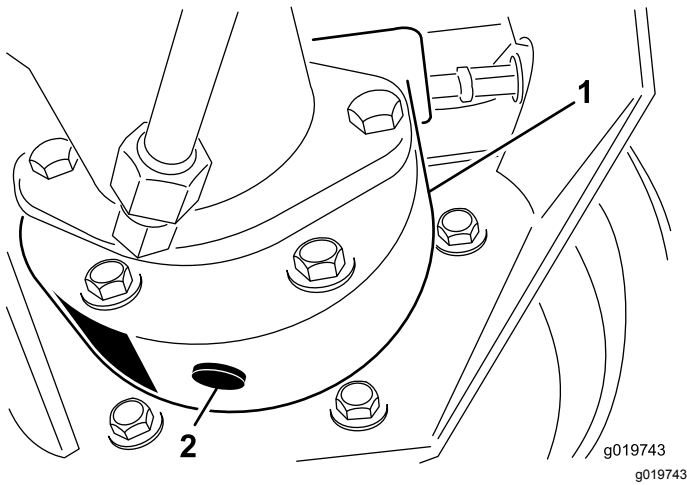

Figure 67
3. Place a drain pan under the brake housing, remove the drain plug, and allow the oil to drain (Figure 67).